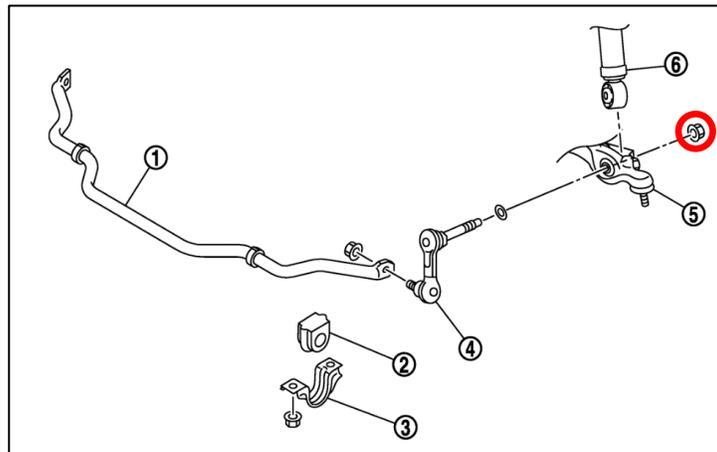

Figure 1
2. Loosen but do not remove the (3) three nuts at the top of each OE Front Coilover from the top of the Shock Towers in the engine bay.
3. Remove the nuts securing the Sway Bar End-Links to each Lower Control Arm and OE Coilover, circled below in *Figure 1*. Retain all hardware.